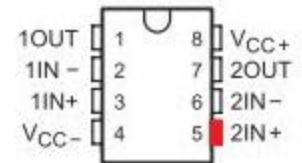

Figure 7c: Port 5 - ground this node
- Take the wire that plugged into the grounded node and attach it to port 5, the positive signal input terminal of the op-amp. The bottom right port denoted in red in Figure 7c.